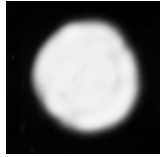

Fig. 3 A saturated filament image at crossover when the gun is aligned properly
- a) Slightly increase filament current till the filament details just disappear at crossover, as shown in Fig. 3.